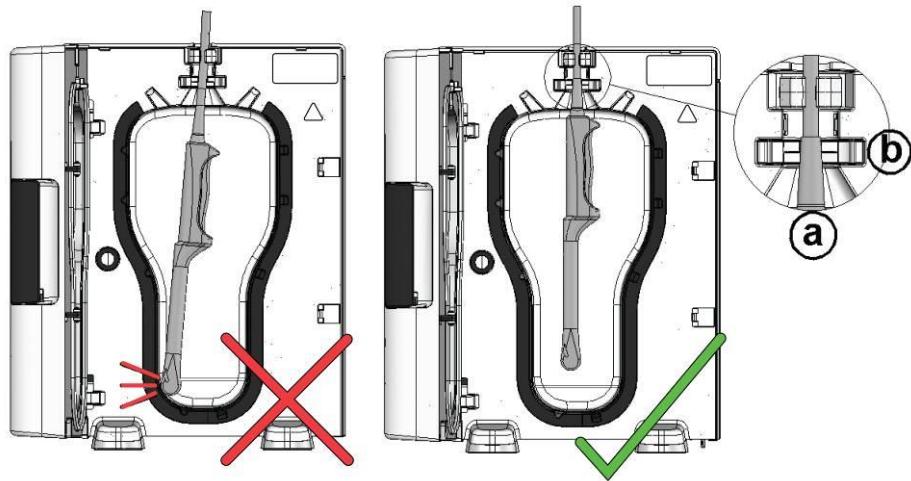

Figure 9
3. The probe is held securely in the chamber by the use of two clamps; refer to Figure 9(a).
The probe has a short sleeve at the back of the handle, covering the electrical cable. This is referred to as the PROBE GLAND - Figure 9(a)
- Hold the probe by its handle, press the top of the PROBE GLAND into the gland seal – Figure 9(a), ensuring the top of the probe cable gland is above the gland seal – Figure 9(b)